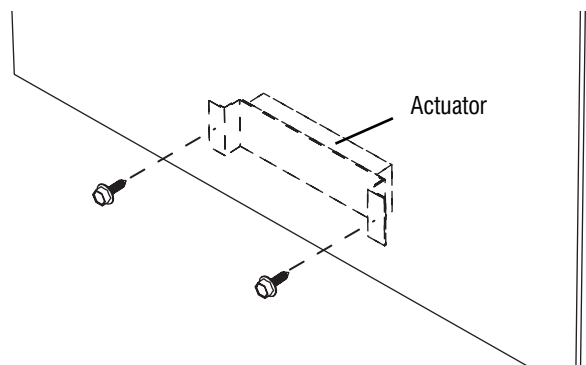

Fig. 11 Mount safety interlock actuators to access doors.
2. Install safety interlock switch actuators to inside of both blower access panels. (See Fig. 11.)